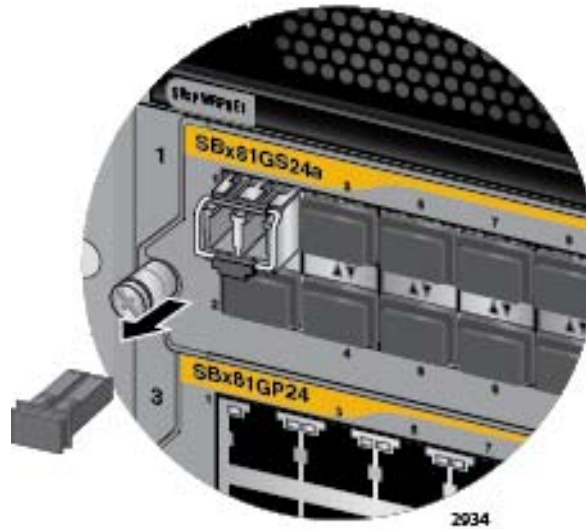

Figure 83. Removing the Dust Cover from the SFP Transceiver in the AT-SBx81GS24a Line Card
5. Remove the protective cover from the SFP transceiver, as shown in Figure 83 on page 148.